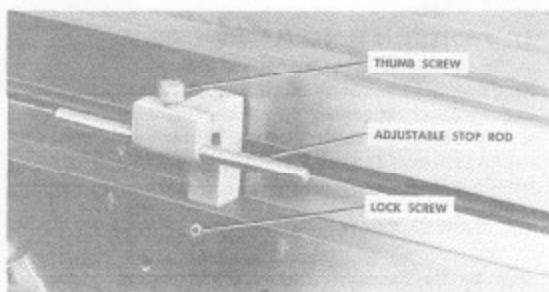

Fig. 33. Adjustable stop attached to front of saddle.
- A. Remove the regular table stop from the center of the saddle and replace it with the adjustable stop rod holder as shown in Fig. 33. Align rod with table.